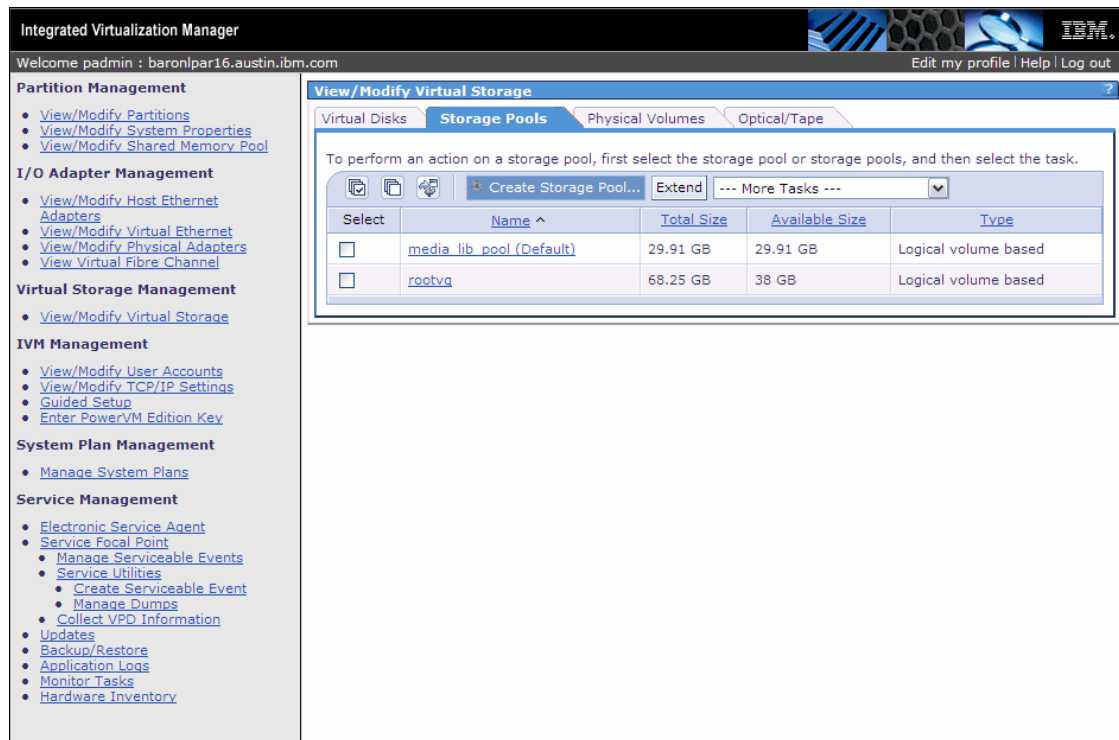

Figure 5-2 Starting the storage pool creation
2. The next window will begin the storage pool creation process. Select **Create Storage Pool** as shown in Figure 5-2 on page 185. This pool will then be used for shared paging storage.